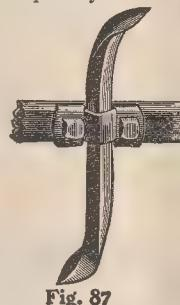

Fig. 87
**No. 2 "IRON AGE" Diamond Tooth Harrow.**—We also offer a modification of the above tool provided with 13 double ended teeth (see Fig. 87). This is in response to a call from those who do not care for the several adjustments, but who wish the economy of the double end. Price, with Lever and Wheel, as in cut plain